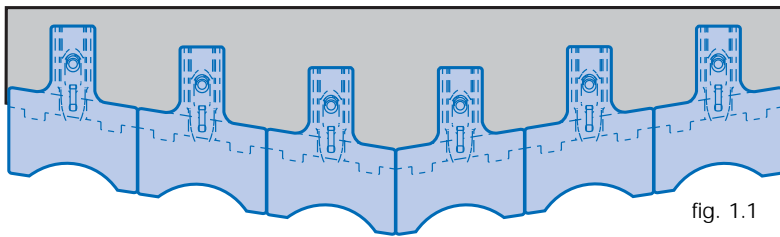
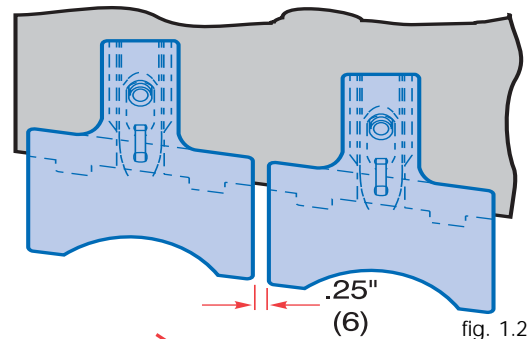
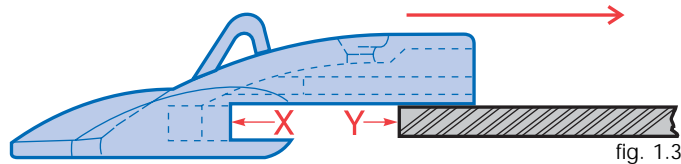

fig. 1.1
fig. 1.2
fig. 1.3
STEP 1.B Position shrouds on lip in proper position (fig. 1.1) maintaining a gap of .25" (6 mm) between shrouds (fig. 1.2). Make sure that the shroud front surface "X" contacts lip front surface "Y" (fig. 1.3). **NOTE: This contact must be maintained throughout assembly process to insure proper location of weld base.**